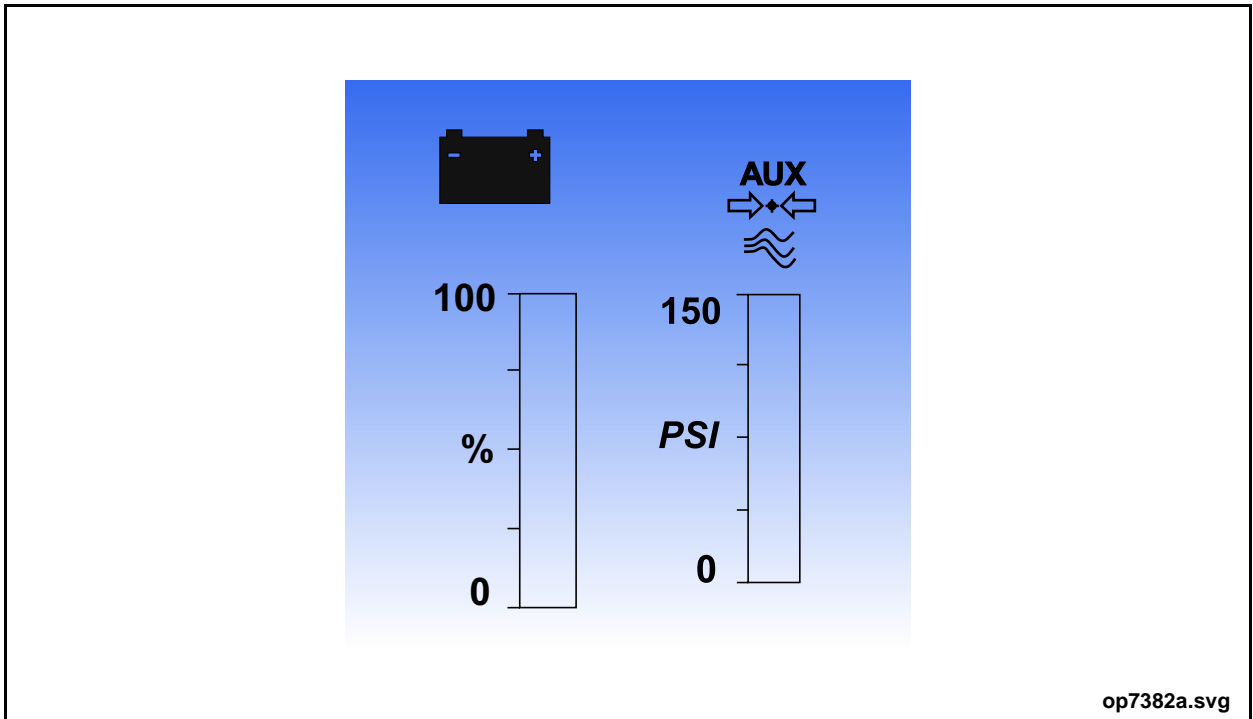

Figure 22: Function Readout
- ESS BATT - displayed on a bar graph as percentage of charge remaining in the Energy Storage System (ESS). See “Figure 22: Function Readout” on page 63.